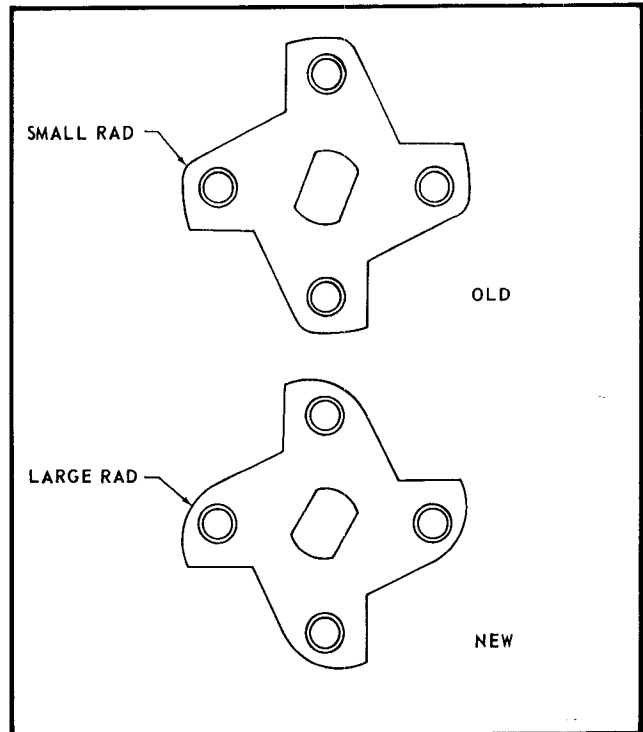

FIGURE 4
13. Install the Book Match Wheel Assembly, part number 222-9017, on the Book Match Rod. Note that the radii at the Studs on the new Wheel Assembly are larger than on the Wheel Assembly removed in step I-A-11. See Figure 4.